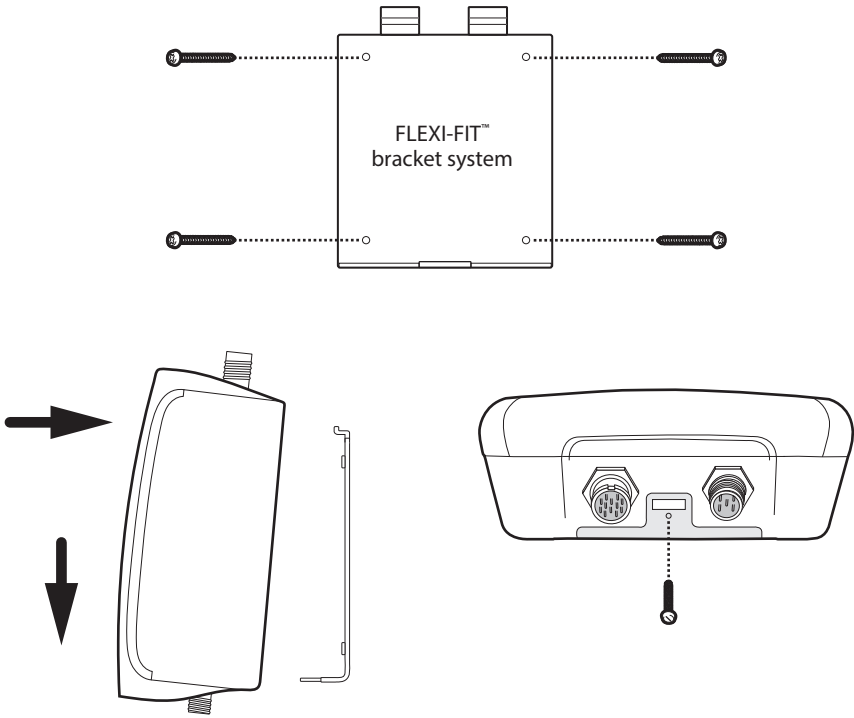

Figure 7 AIS transceiver mounting
- A mounting bracket and four self tapping screws are supplied for attachment of the AIS transceiver to a suitable surface. Please refer to Figure 7 for guidance.
4. Screw the captive security screw in the bracket into the AIS transceiver to lock it in place. See Figure 7